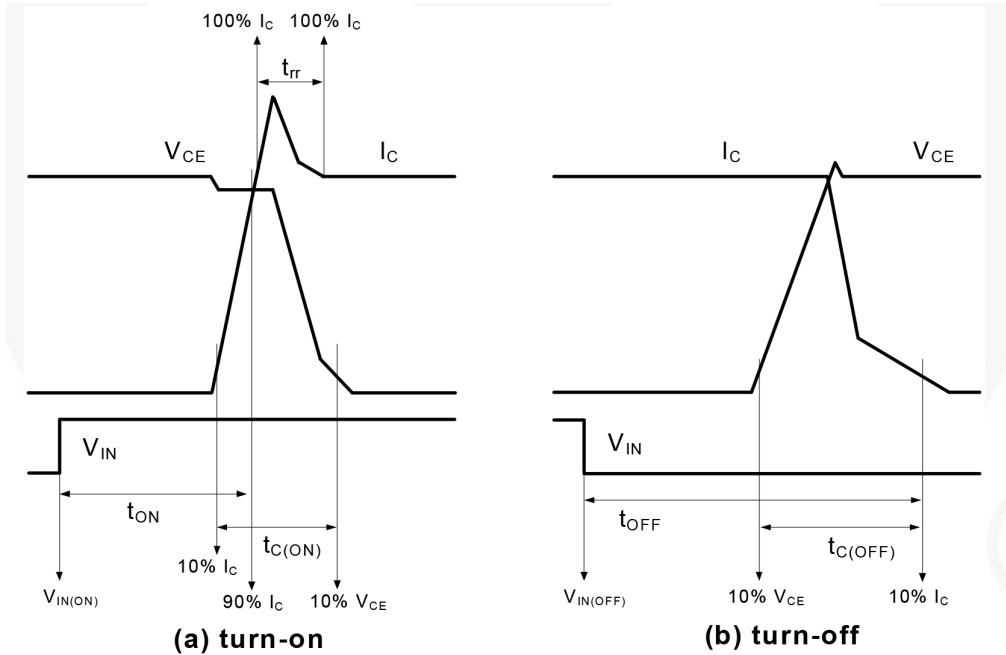

Figure 3. Switching Time Definition
6. t_{ON} and t_{OFF} include the propagation delay of the internal drive IC. $t_{C(ON)}$ and $t_{C(OFF)}$ are the switching times of IGBT under the given gate driving condition internally. For the detailed information, please see Figure 3.